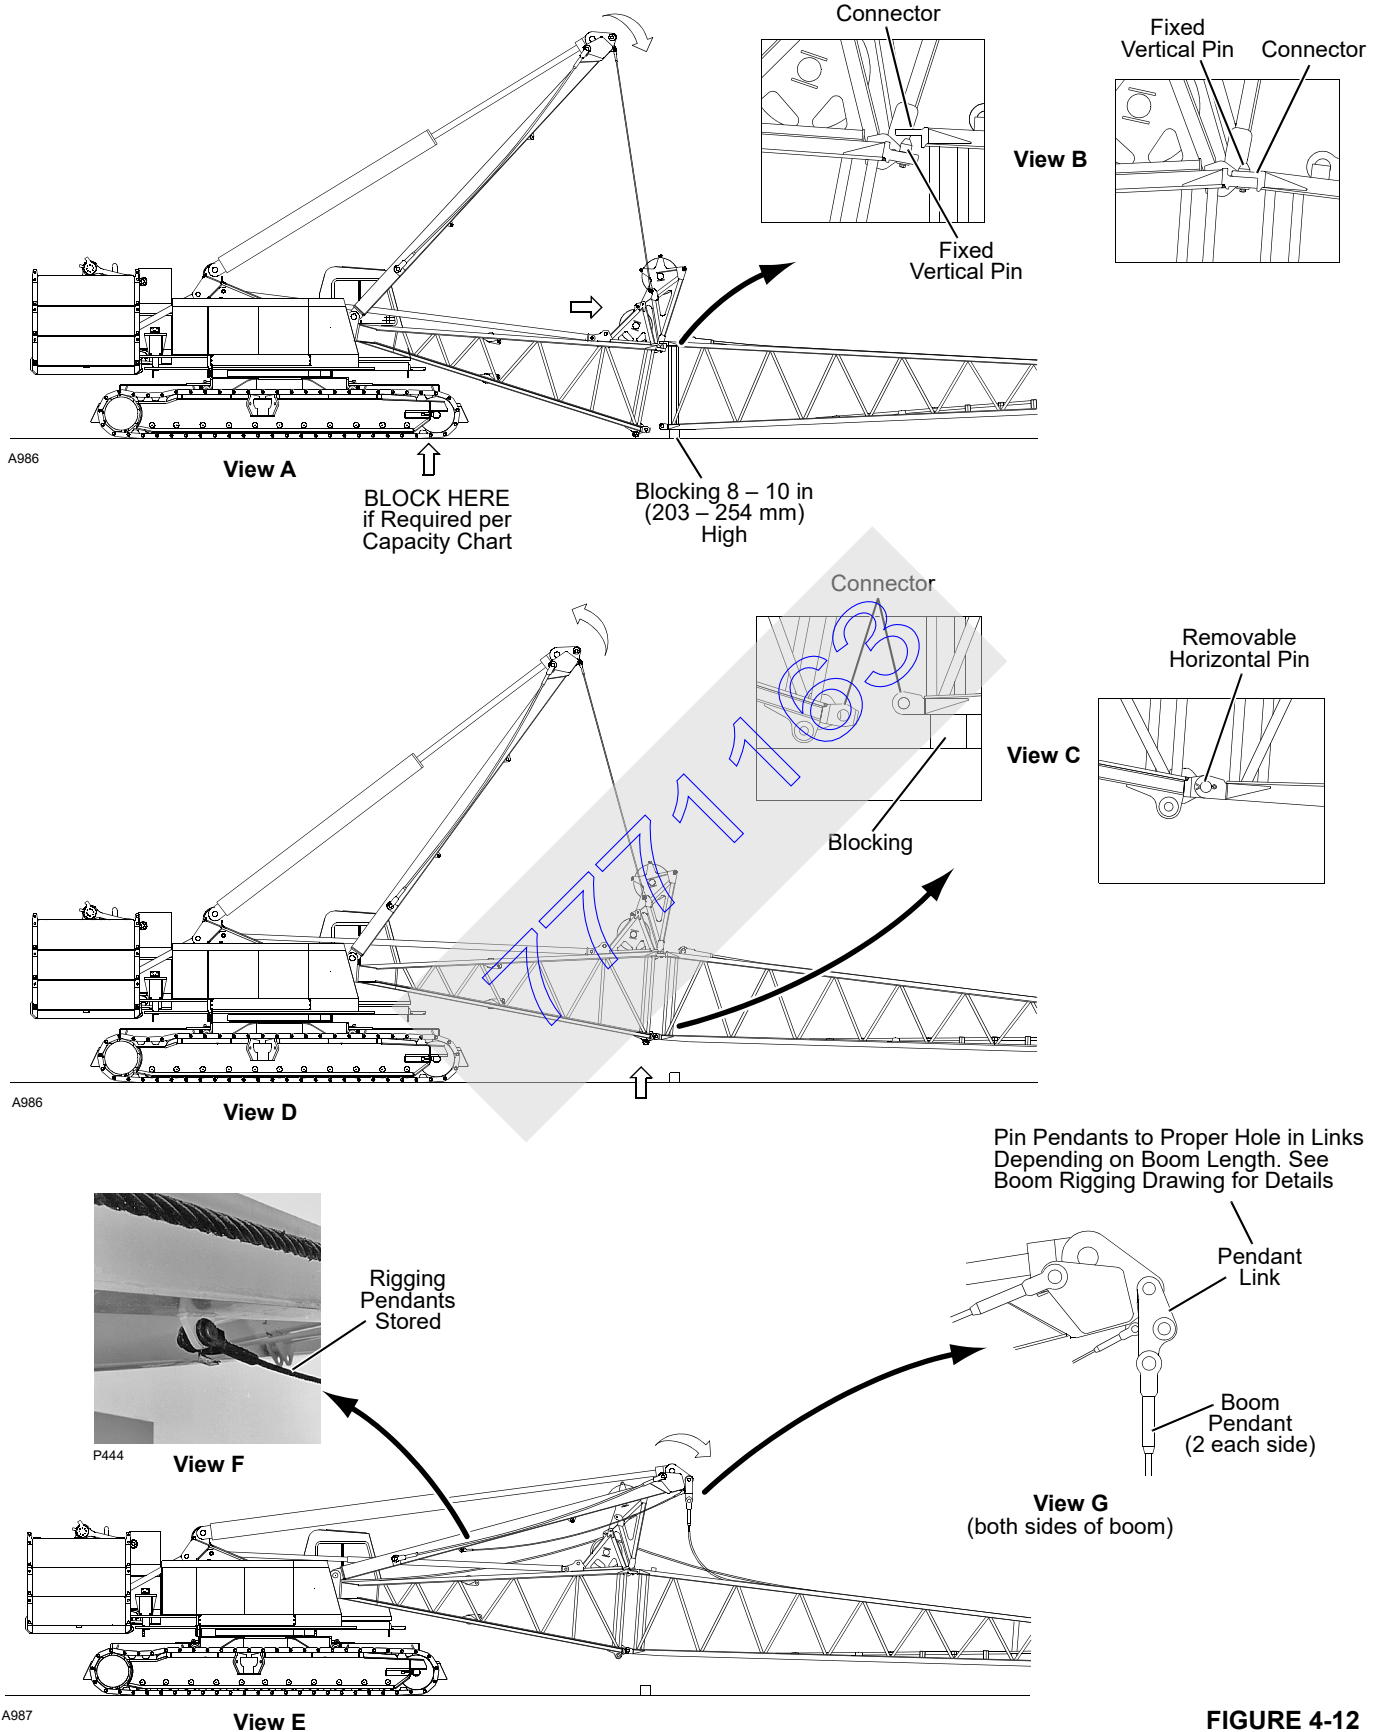

FIGURE 4-12
- The top connectors are joined by fixed vertical pins that hook into holes in the adjacent section (Figure 4-12, View B).
- The bottom connectors are joined by removable horizontal pins (Figure 4-12, View C).
5. Position crane so boom butt is in-line with boom (Figure 4-12, View A).
6. Travel forward slowly, swing, and boom up and down as required to align fixed vertical pins in butt with top connector holes in insert (Figure 4-12, View B).
- d. Place required blocking on ground at points marked in step 7a (Figure 4-12, View A).
8. Slowly boom up only enough to align bottom connector holes in butt with bottom connector holes in insert (Figure 4-12, View C).
9. Install bottom connector pins (Figure 4-12, View C)
10. Boom down enough to slacken rigging pendants (Figure 4-12, View E).
12. Pin rigging pendants to lugs on mast for storage (Figure 4-12, View F).
14. Connect boom pendants to pendant links (Figure 4-12, View G).